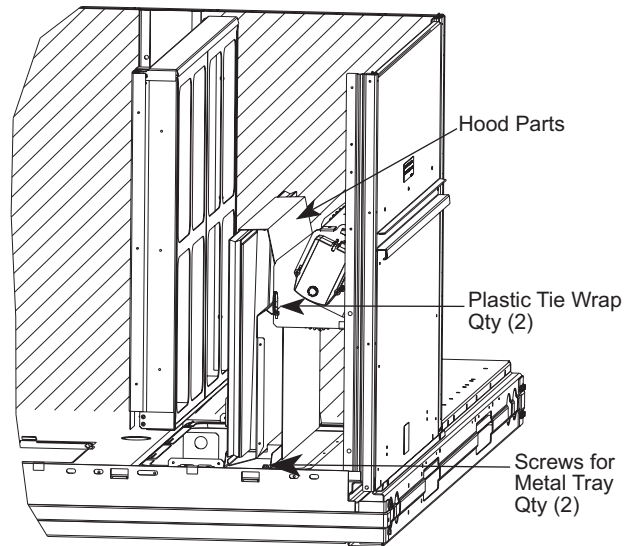

Fig. 10 — Economizer Hood Parts Location
2. Locate the (2) screws holding the metal tray to the basepan and remove. Locate and cut the (2) plastic tie-wraps securing the assembly to the damper. See Fig. 10. Avoid damaging any wiring or cutting tie-wraps securing any wiring.